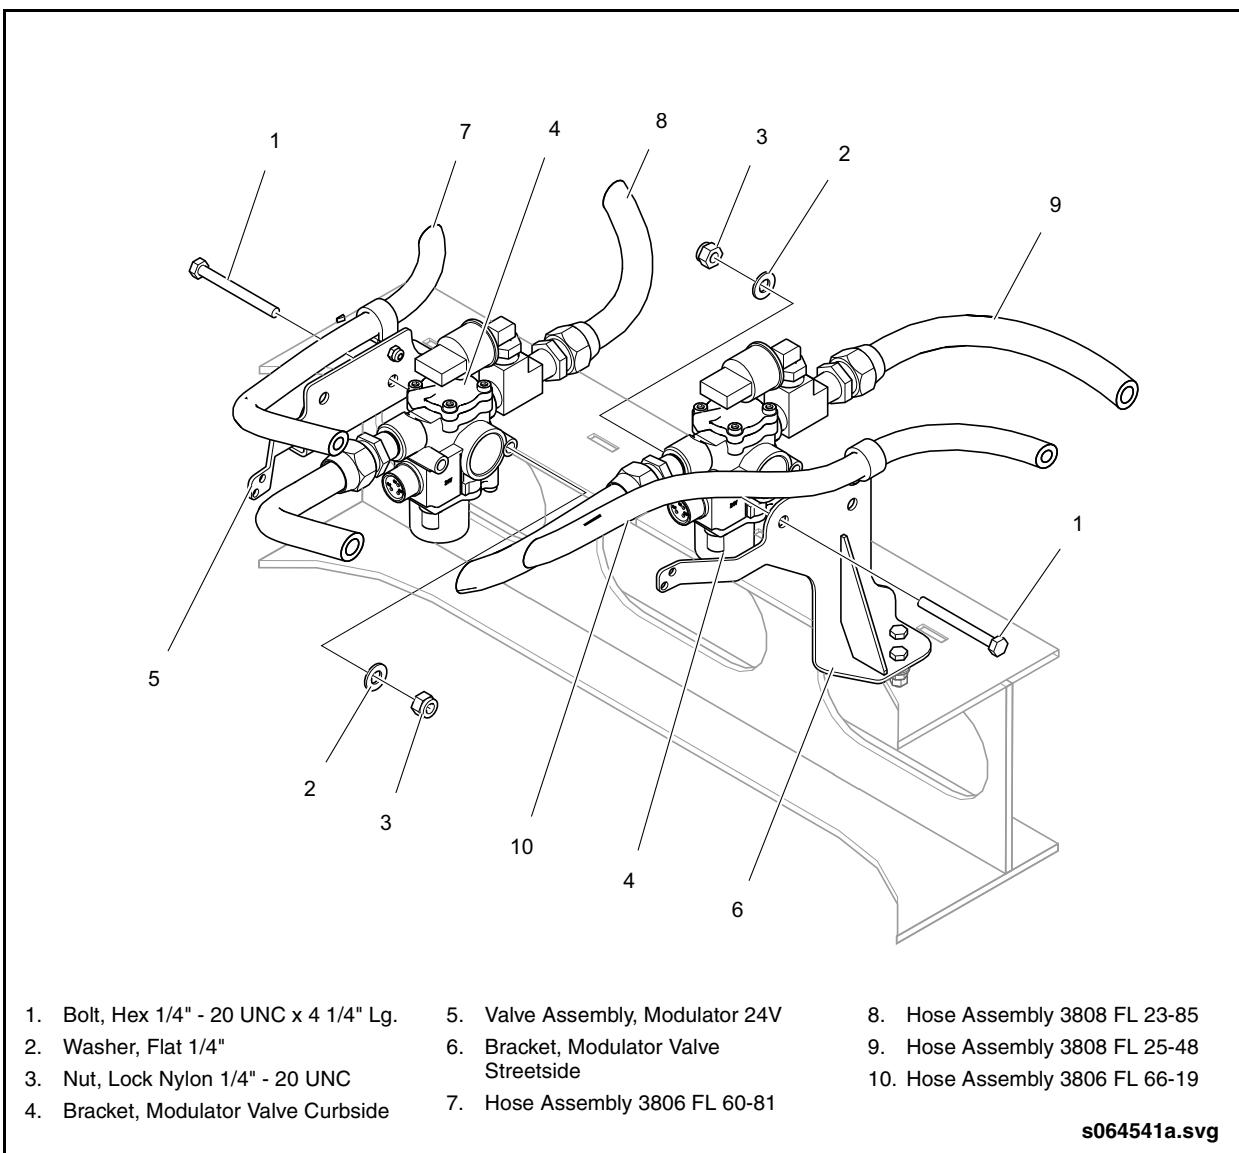

Fig. 2-151: Rear Modulator Valve Removal &amp; Installation
3. Disconnect the air lines from ports 1 and 2 of the ABS valve. See "Fig. 2-151: Rear Modulator Valve Removal & Installation" on page 131.